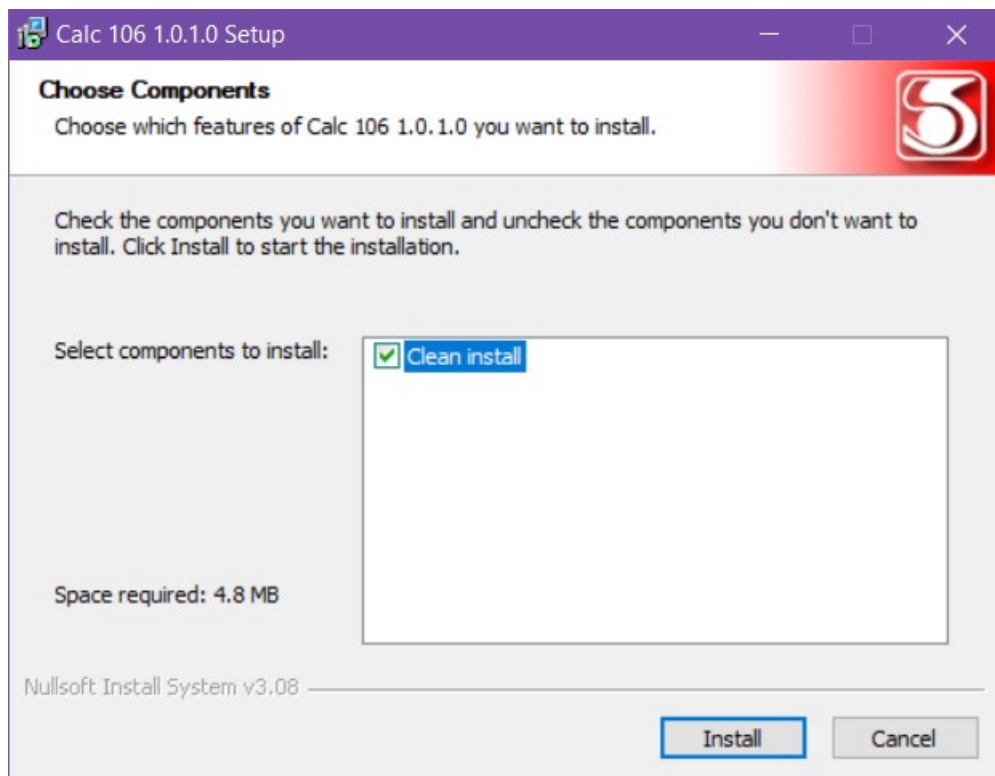

Fig. 1: Installation
3. In the installer (Fig. 1), specify the components to be installed and click **Install**.